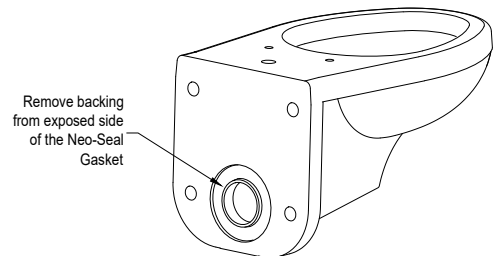

Figure 18.
18. Peel off removable backing liner from the opposite side of the gasket and hang the water closet onto the threaded rods. Ensure Neo-Seal gasket seals to the coupling. See Figure 18.